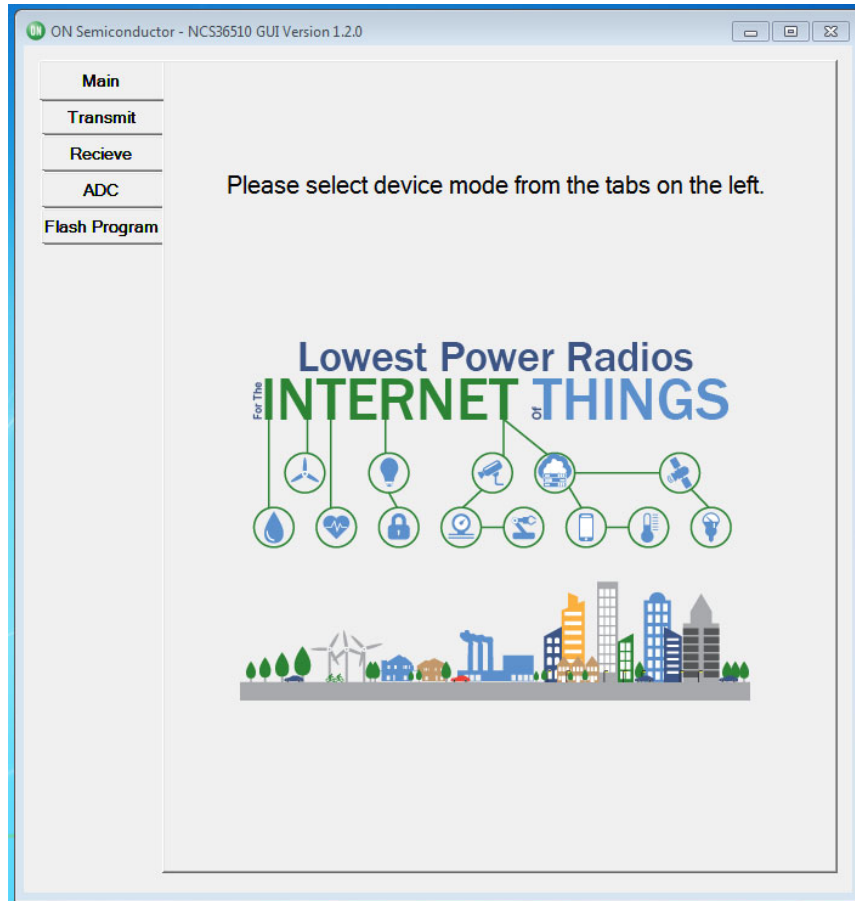
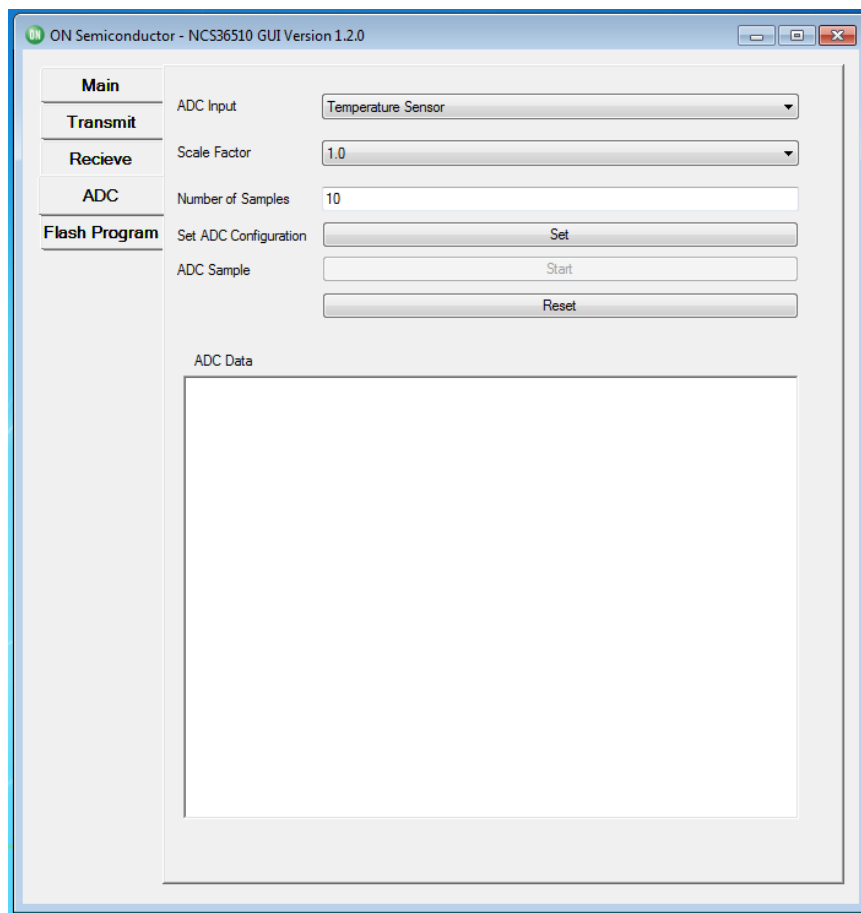

Figure 2. GUI Main Page
Figure 14. GUI-ADC-Interface
3. Select the “ADC” tab as shown in Figure 2, the “ADC” page will look as shown in Figure 14.